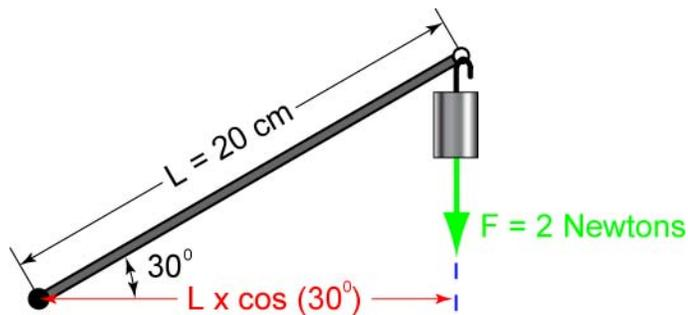

Figure 13: Torque Problem
- Example 1: Calculate the torque in Figure 13 below.